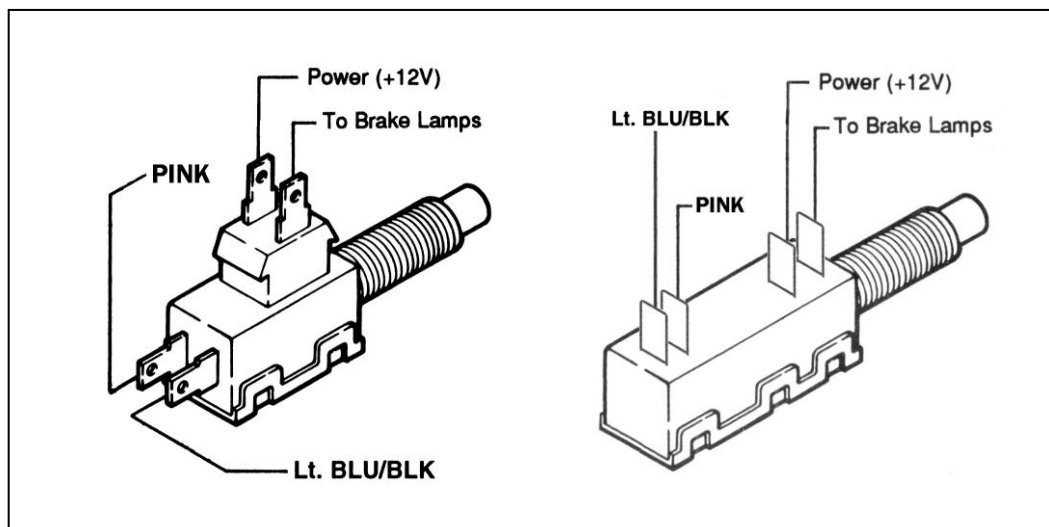

FIGURE 6.2 Brake Switch Connection
- F. If you are using the recommended brake switch then you will wire it according to **Figure 6.2**. The pink wire to the back of the switch in the illustration is the wire that has power on it whether or not the brake is being applied.